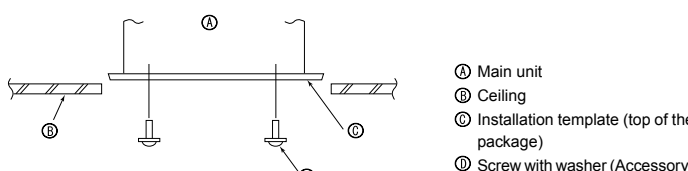

Fig. 3-7
- Make sure that A is performed within 17-22 mm, 11/16 to 7/8 inch. Damage could result by failing to adhere to this range. (Fig. 3-7)